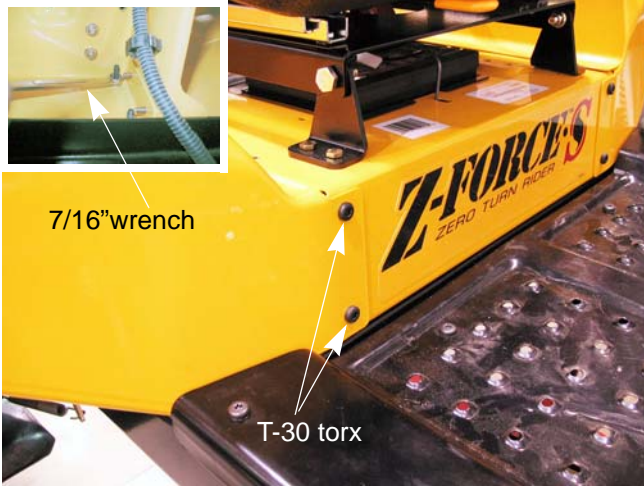

Figure 4.21
17. Remove the screws that hold the front of the control console to the front of the seat box assembly using a T-30 torx driver and a 7/16" wrench. See Figure 4.21.
8. Remove the screws that hold the front of the control console to the front of the seat box assembly using a T-30 torx driver and a 7/16" wrench. See Figure 4.21.